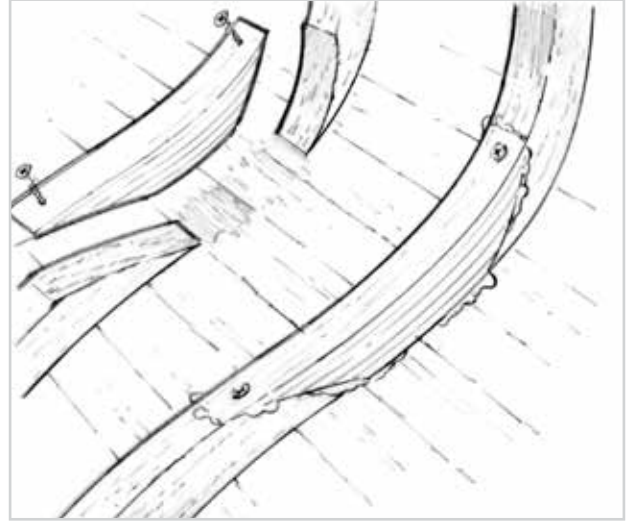

Figure 4-5 Bond in a new laminated or solid section trimmed to fill the void in the existing frame.
4. Install the new frame section (Figure 4-5). Wet out all contact surfaces of the new and existing frame ends with unthickened epoxy, unless using G/flex 655 or Six10 Adhesive. Apply a liberal amount of G/flex 655, Six10 or thickened epoxy/406 mixture to one side of each contact area.